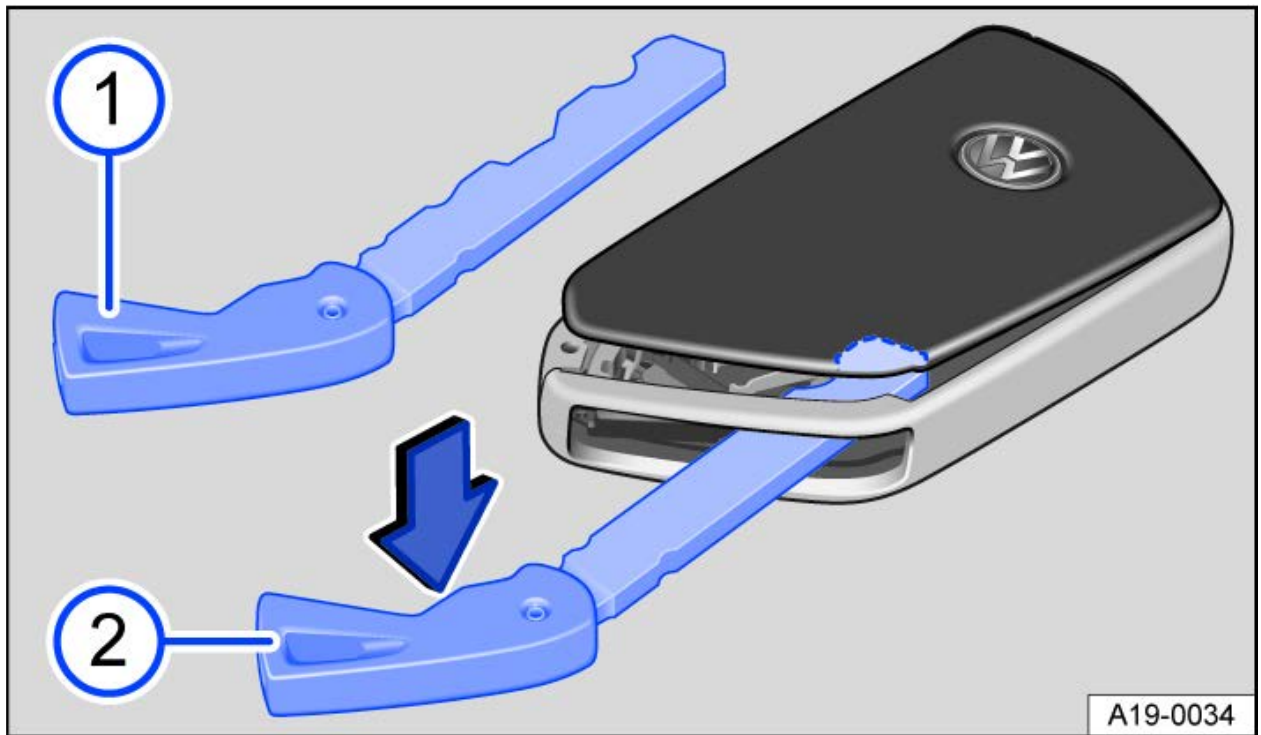

Fig. 1 Vehicle key: opening the battery compartment cover.
- Remove the mechanical key → *fig. 1* (1) (→ *Vehicle key, Emergency operation*).
- Insert the spare key in the slot → *fig. 1* (2), push it in the direction of the arrow and lever out the cover.